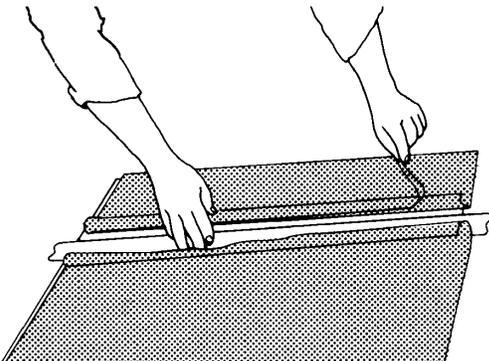

Figure 10. Removing the Film Weeds
- Remove the bottom film weed. See Figure 10.